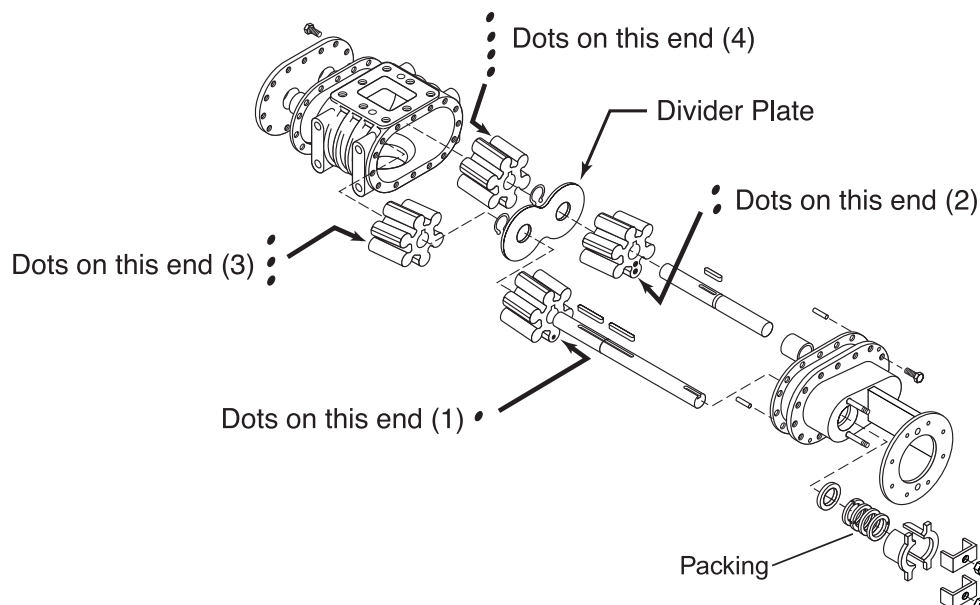

Figure 33. Etnyre Asphalt Pump.
1. Remove 20 capscrews from perimeter of pump end plate (see Figure 33).
Each impeller gear set uses a series of dots on the gear faces to indicate position of the gears within the pump. Refer to Figure 33 for proper positioning of the gears. The dots must face away from the divider plate (towards the ends of the pump). Install the impellers in numerical order.